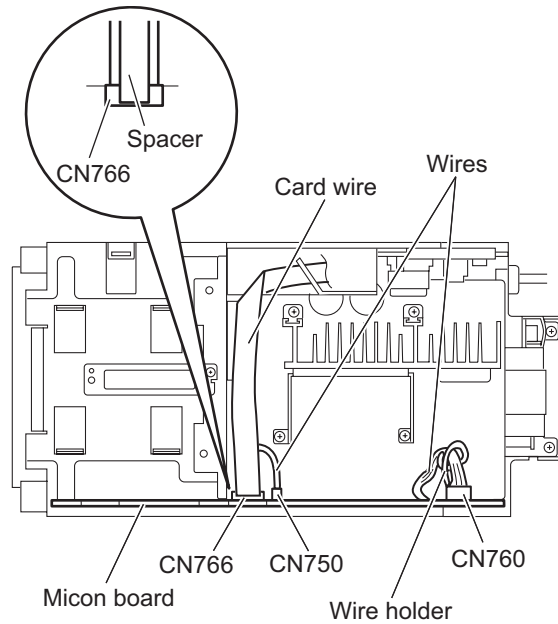

Fig.9
3.1.6 Removing the micon board (See Figs.9 and 10)
- (1) From the top side of the main body, disconnect the card wire from the connector CN766 on the micon board. (See Fig.9.)
- (2) From the forward side of the micon board, disconnect the wire from the connectors (CN750, CN760) on the micon board. (See Fig.9.)
When reassembling, fix the wire with the wire holder after connecting the wire to the connector CN760 on the micon board as before. (See Fig.9.)